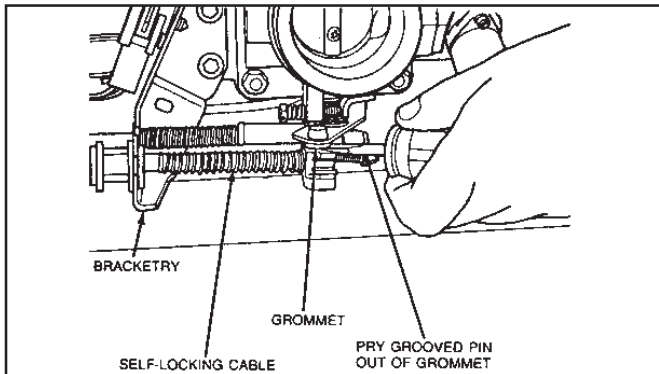

Figure 25
7.9 Remove gauge tool and pry grooved pin out of grommet on throttle lever. **(See Fig. 25.)**